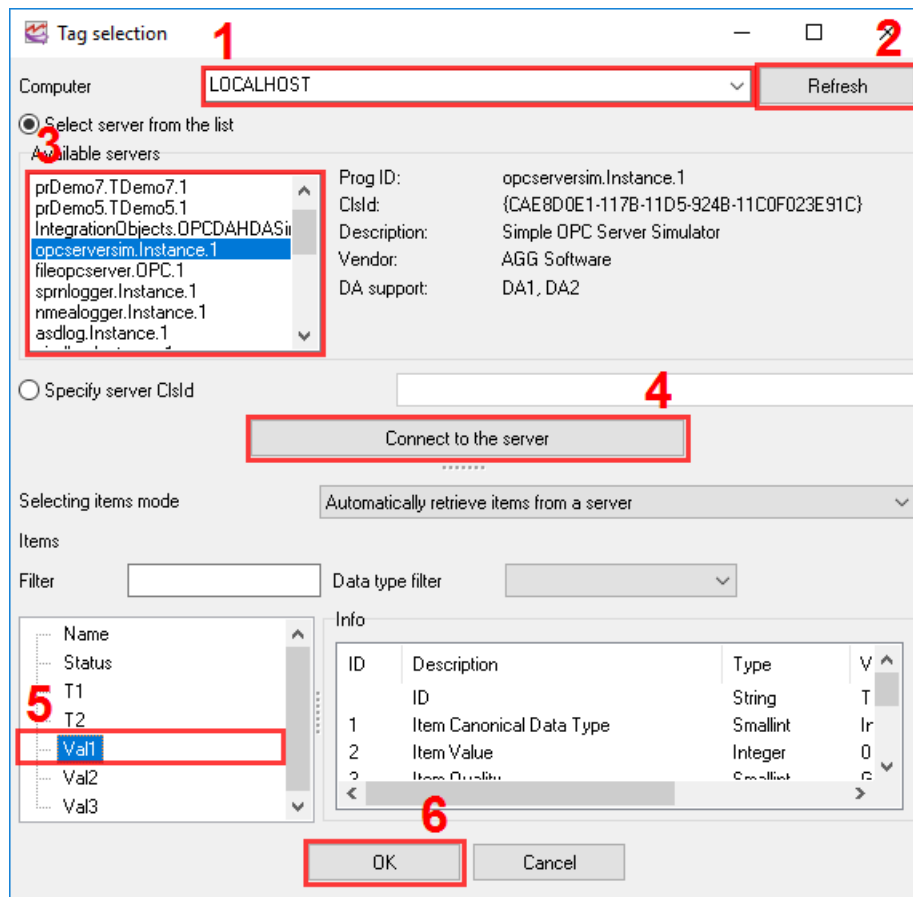

Fig.5. Selecting an OPC tag
1. Use another dialog box (fig.5) to enter the computer name where the OPC server is running. If the server is located on the same computer where the program is running, leave the field with the computer name empty;